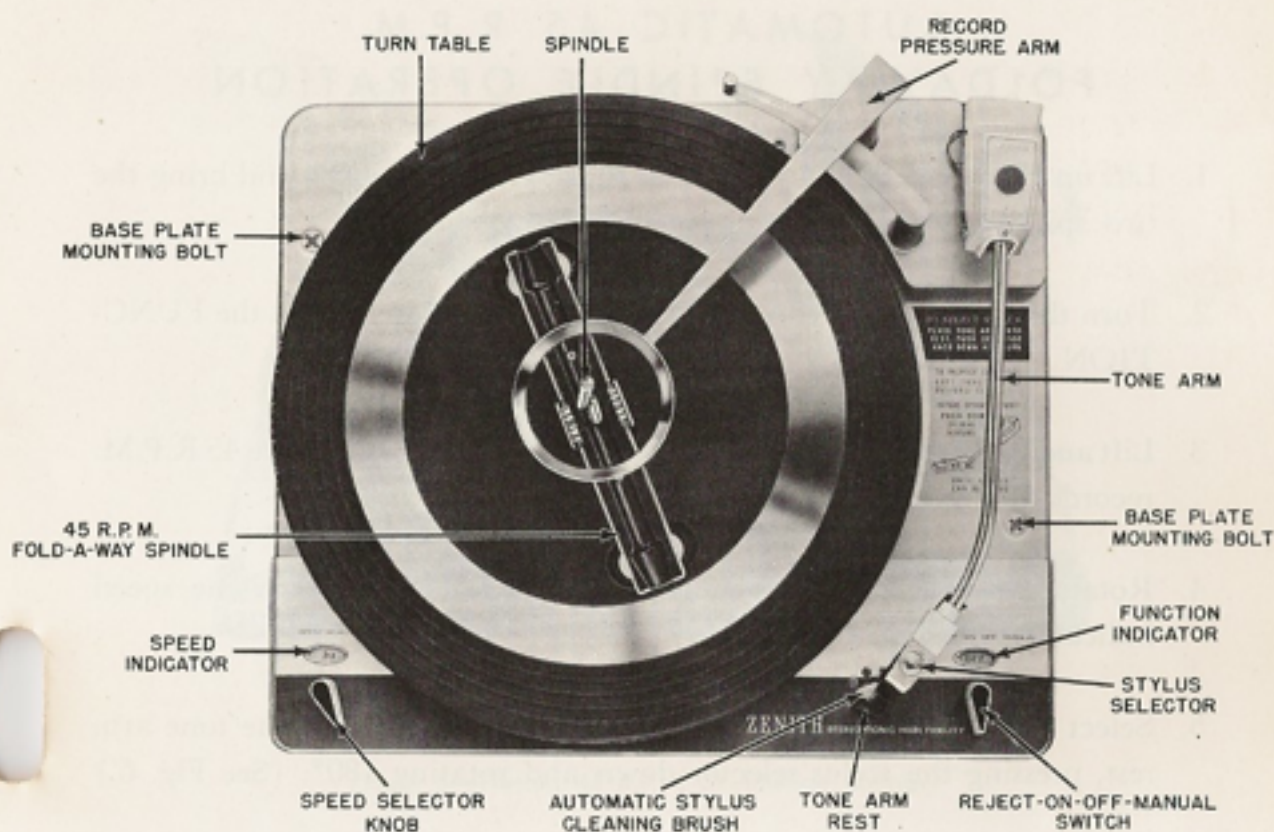

Figure 7—Changer, Top View
3. Rotate the speed selector knob to 78, 45, 33 or 16 R.P.M. as shown at the speed indicator. This will be determined by the speed of the records being used. (See Fig. 7).
1. Lift and rotate the record pressure arm counterclockwise (See Fig. 7).
4. Rotate the speed selector knob to 45 R.P.M. as shown at the speed indicator. (See Fig. 7.)